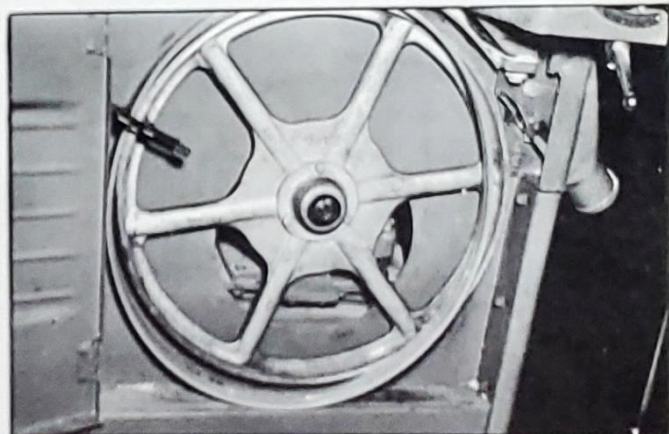

Fig. 11
1. Place one portion of the tire completely on the wheel and fasten using a clamp, as shown in Fig. 11.